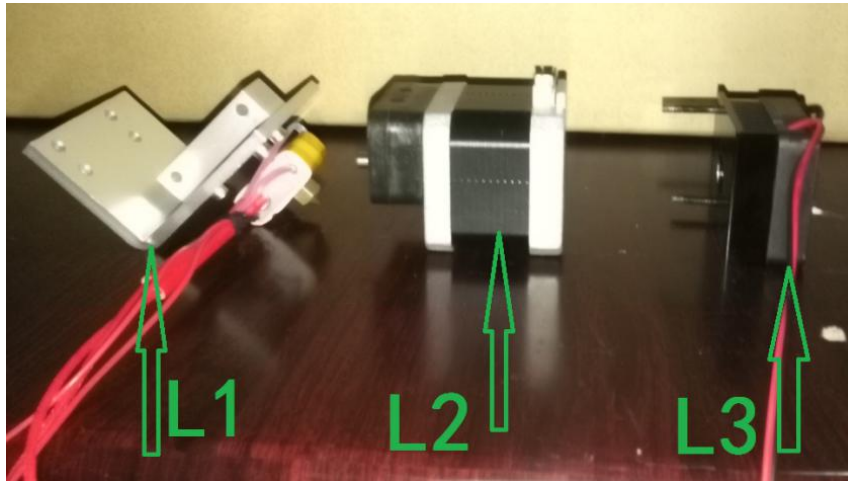
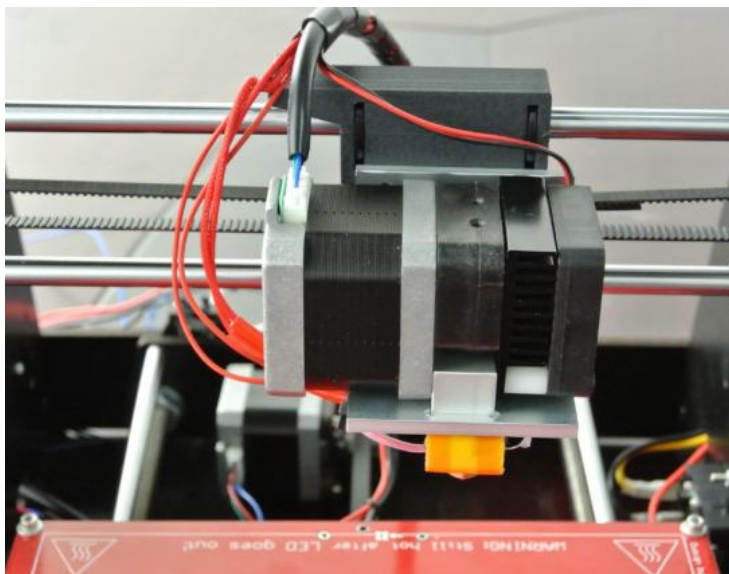

Figure 24
Figure 25
First unscrew cooling fan of nozzle, dismantle the L1, L2 and L3 parts of nozzle as shown in figure 24. **Install L1 part to the movable block in the middle of P assembly** with ⑥, ④ and ③. Please remember that first get screw ⑥ through the movable block in the middle of P assembly, then install the nozzle in the reverse order that these parts are dismantled, as instructed in figure 25. Connect motor of nozzle to port 10 of motherboard with long cable ①⑨. Connect cooling fan cable to port 14 of motherboard 14. Connect power cable of nozzle to port 3 of motherboard. Connect temperature sensor of nozzle to the port 21 of motherboard.